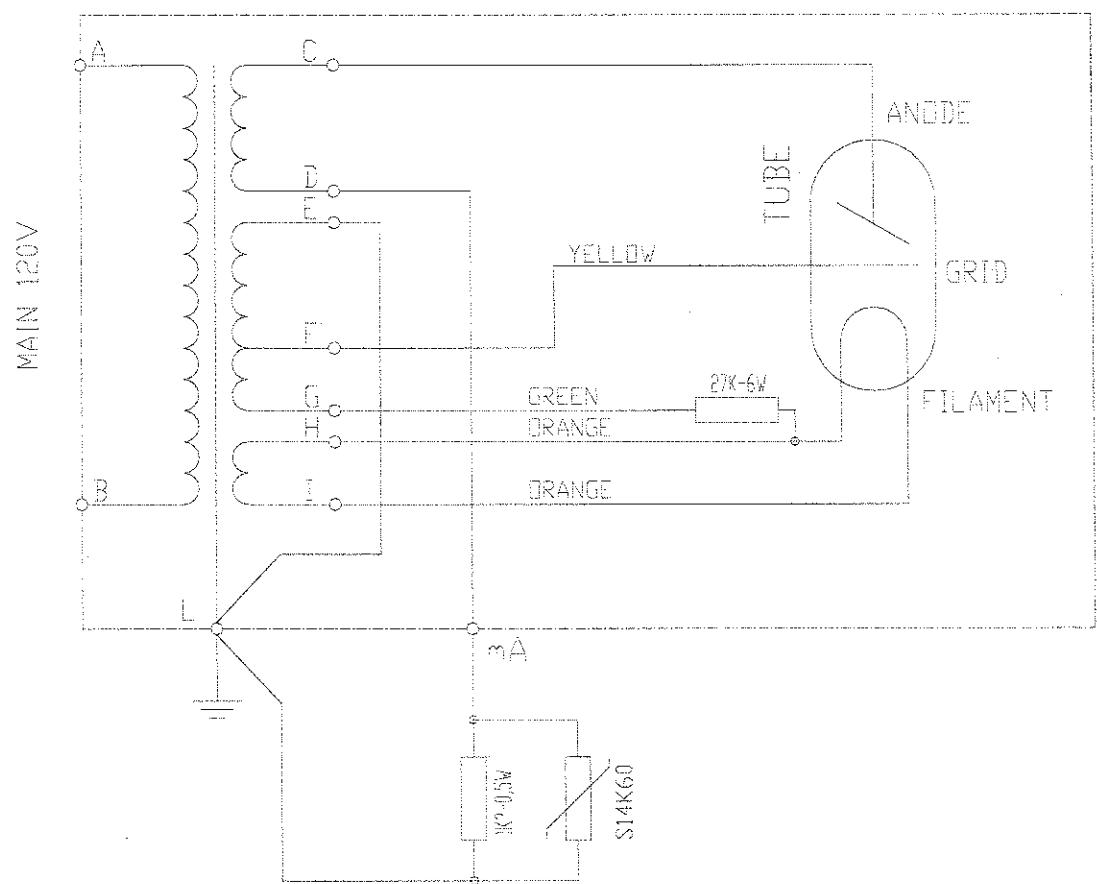

Figure 20 Tubehead connection diagram
- b) Connect a digital voltmeter in parallel with the electrical power incoming to the unit. See Figure 20 enlargement "A" on page 29. Monitor the line voltage.